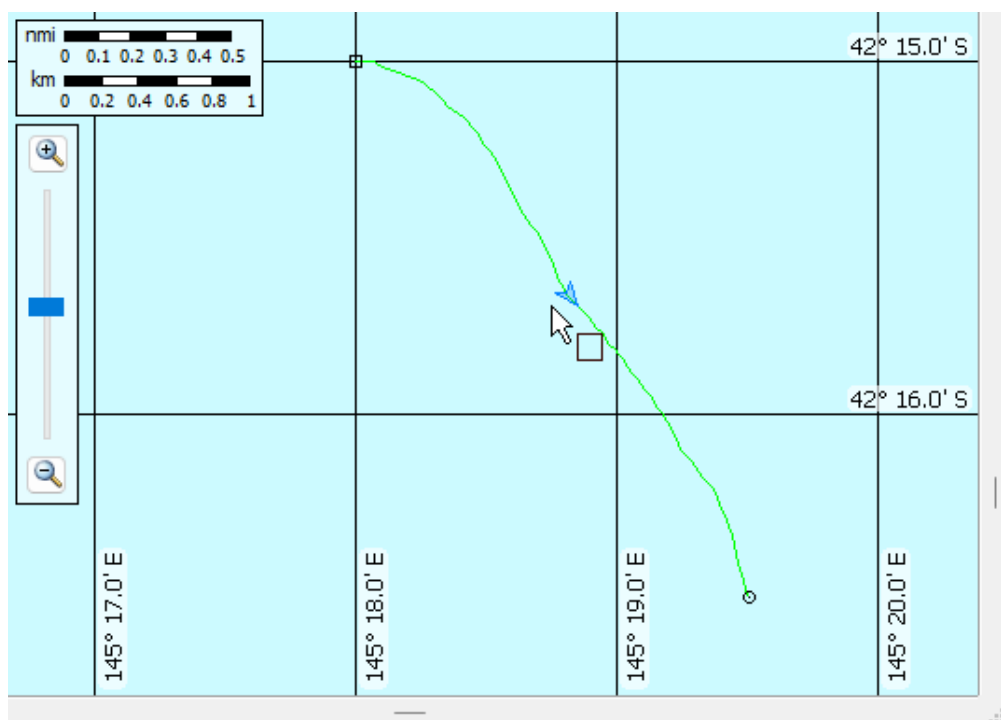

Figure 7. The Fileset1: position GPS fixes window displays a cruise track. The Platform icon  points and moves in the direction of travel.
4. Click on **View** in the toolbar and navigate to **Cruise Track, position GPS fixes**. This opens the **Fileset 1: position GPS fixes** window (Figure 7), which is an example of a cruise track.
15. Point to the start icon  of the cruise track (42° 15.0' S 145° 18.0' E in Figure 7) and from the Shortcut (right-click) menu, click **Synchronize**. The result is Figure 10.
- b. Click the **Mapping** tab (Figure 7)